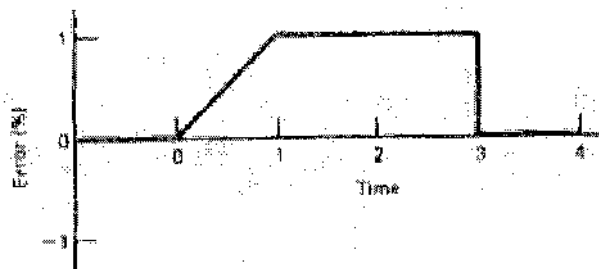

Figure Q.9 (a)
9. a) Given the error of Figure Q. 9 (a), plot a graph of a P controller output as a function of time. $K_p = 10$ and $P_o(0) = 15\%$. 10